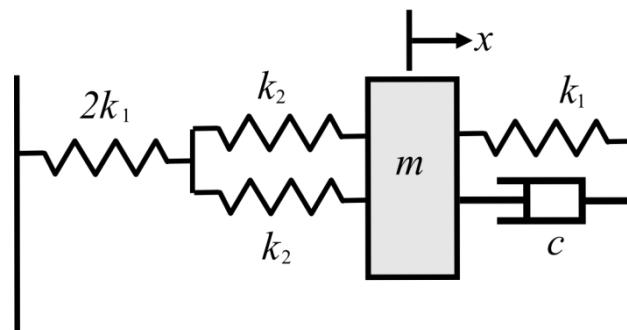

Figure 1(b)/Rajah 1(b)
- (b) Consider the following mass-spring-damper system which is fixed at both ends as shown in **Figure 1(b)**.